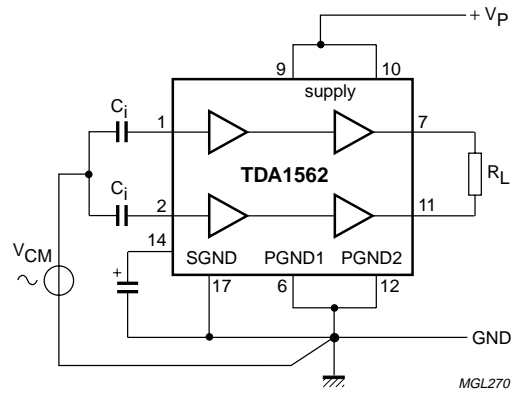

Fig.9 CMRR test setup.
- Common mode rejection ratio is measured across R_L ; $V_{cm} = V_{cm \text{ max.}} = 2 V_{PP}$. CMMR [dB] = differential gain (G_v) + common mode attenuation (A_c), (Test setup according Fig. 9; mismatch of input coupling capacitors **excluded**).